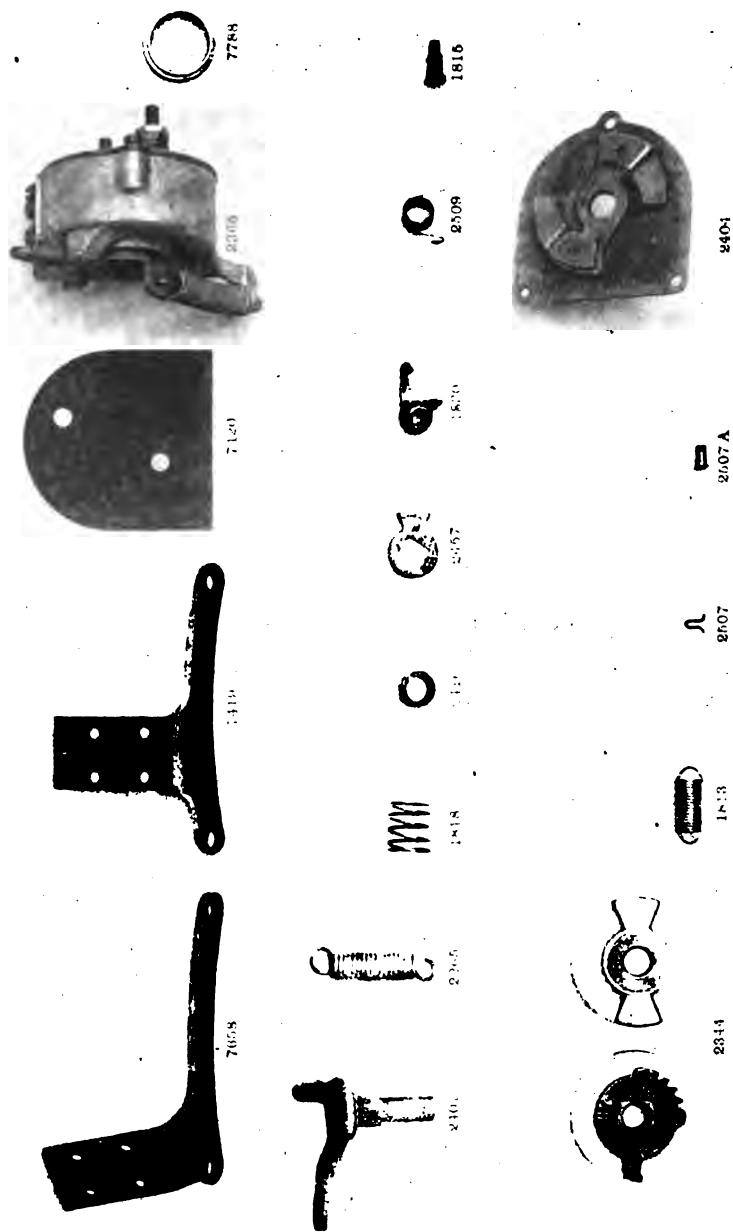
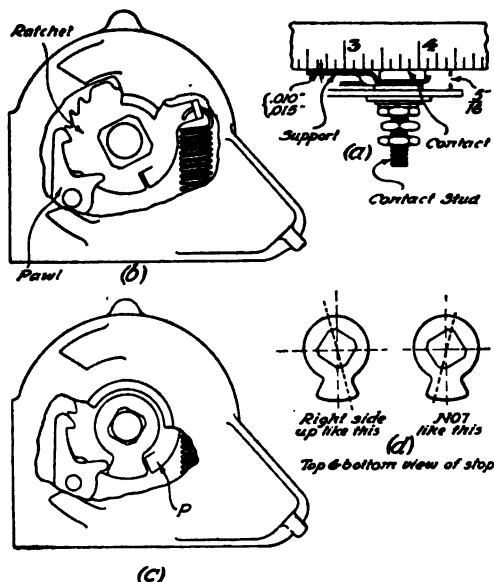

Fig. 306. View of Essential Parts of North East Starting Switch
Fig. 307. Assembly of Starting Switch
**Starting Switch.** When its operation indicates that the contactor blades have worn, the starting switch should be dismantled, and, if necessary, new blades should be inserted. To disassemble the switch, proceed as follows: (1) Remove the spring 2265, Fig. 306, on the switch case 2365; (2) remove the cotter pin from the collar 2416; (3) withdraw the shaft and lever 2401, together with the spring 1818; (4) remove the three screws which hold the cover 2404 in place,
The upper surfaces of the supports must be .010 to .015 inch lower than the contact surface of the block. Care should be taken that the upper surface of the contact blocks are  $\frac{1}{8}$  inch above the inner surface of the cover. A small steel straightedge laid upon the face of the contact block and extended over the supports, as shown in Fig. 307 (a), will serve as a means of checking these dimensions.
Before placing in service, the contact surfaces must be carefully cleaned and lubricated with a very small quantity of vaseline. To reassemble the switch: (1) Connect the spring 1813, Fig. 306, to the arm of the ratchet; (2) place the contactor member 2344 in the switch case in such a position that the ratchet will lie against the pawl 1830; and (3) hold the switch case in the left hand, lever side up, and insert the right forefinger through the hole in the switch case and introduce the pawl into the first notch of the ratchet, Fig. 307 (b); (4) hold these parts carefully in position and replace the cover 2404, Fig. 306, fastening it to the switch case by means of the three screws; (5) insert the stop through the hole in the switch case and replace it upon the ratchet plate in such a position that the elongated portion of the stop will lie between the raised projection which is found on the ratchet plate and the end of the short lever on the pawl as shown in Fig. 307 (c). It is very important that the stop be placed in the switch right side up, Fig. 307 (d) illustrating the proper method of doing this. (6) Place the spring on the shaft and replace the shaft in the switch, taking care while entering the shaft not to disturb the arrangement of any of the switch parts; (7) replace the collar and the cotter pin; and (8) connect the spring 2265 with the lug on the switch case. A drop of light oil should be applied to the bearing point at each end of the switch shaft 2401.